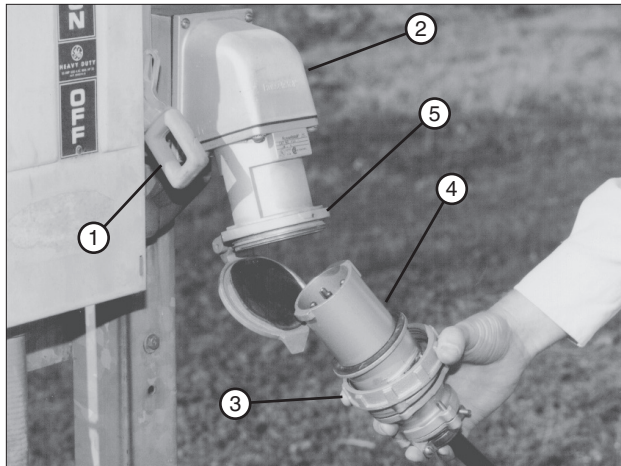

Figure 74-1 1. Disconnect Switch 2. Power Pedestal 3. Plug Cap Collar 4. Plug 5. Receptacle
- Turn the power pedestal disconnect switch to the OFF position. See figure 74-1.
- Remove plug cap from electric cord plug, and insert the electric cord plug into the power pedestal receptacle. See figure 74-1.